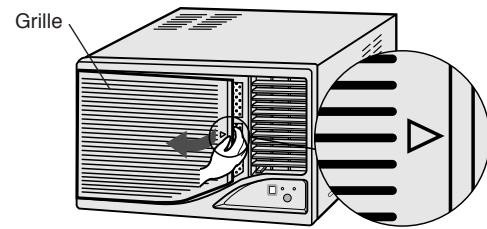

Fig.1
- 1** (1) Open the grille (Fig.1) by gently pulling the arrow marked portion. Remove the air filter (Fig.2) from the front panel. Unscrew the screw fixing the front panel to the chassis. (Fig.2) Keep the screw as it will be used later.